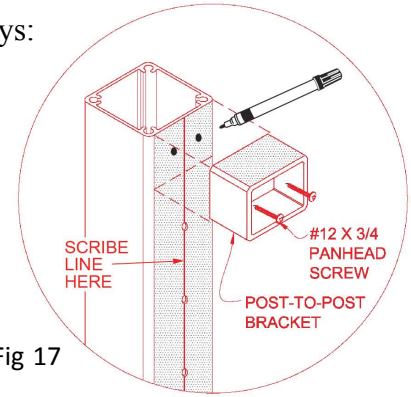
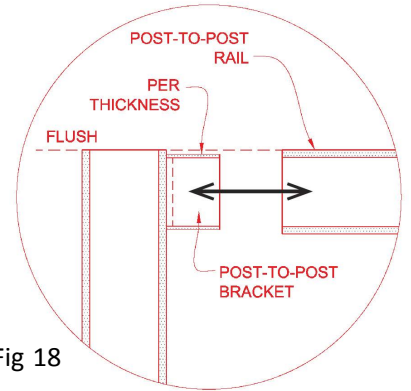

Fig 17
Fig 18
- 1.1 Must be installed sequentially starting from the first terminal post. Hold the mounting bracket centered against the inside face of the post, and 1/16" from to the top of the post (Fig 18). Mark with a felt tipped pen the two holes (Fig 17). Center punch the marked holes and drill pilot holes into post to accept x2 #10x3/4" Phillips Panhead Tek 410 SS Screw (included). Using these screws, attach mounting bracket to post (Fig 17). Repeat procedure for the next post. With the chop saw, cut the **POST TO POST RAIL** to length. At this time, loosen or remove anchors to allow the **POST TO POST RAIL** to be inserted over the brackets. Re-tighten the posts.